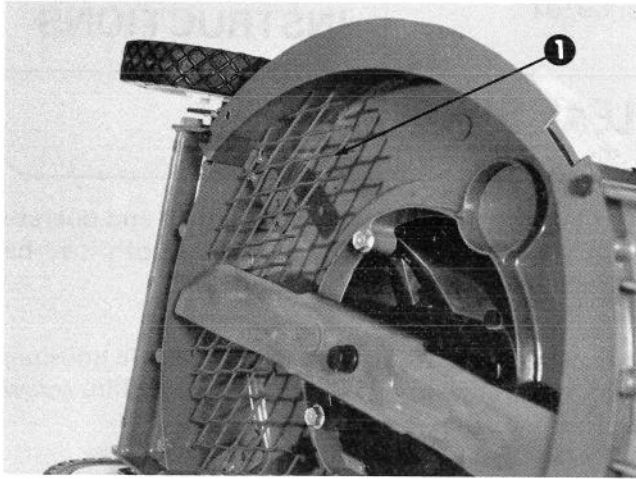
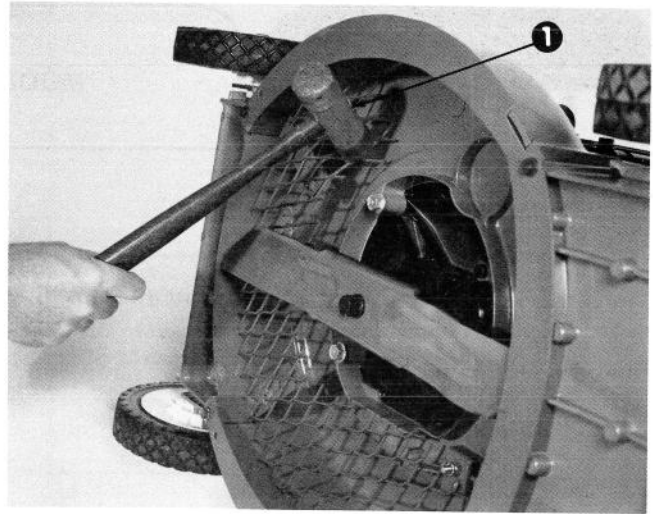

Figure 4
Figure 5
6. Bend loose end of screen (Fig. 4), in front up to top of wind tunnel by using a plastic head hammer (Fig. 5). DO NOT STRIKE BLADE WITH HAMMER.